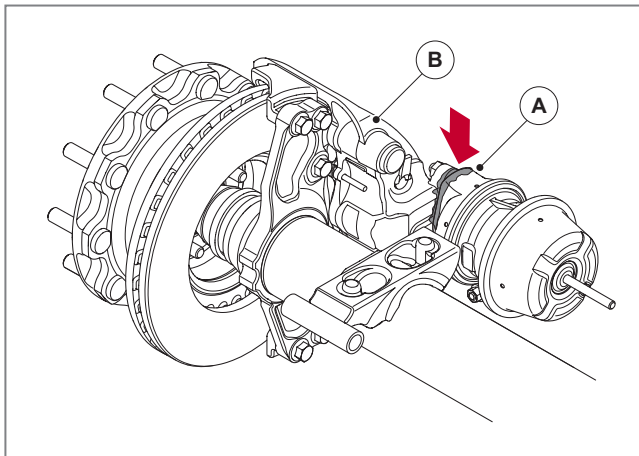

Fig. 23 - Mating surfaces of the brake chamber and brake calliper
2. Thoroughly clean around the mating surfaces of the brake chamber (A) and brake calliper (B) to ensure that dirt does not get into the mechanism area when removing the brake chamber, see ► Fig. 23.